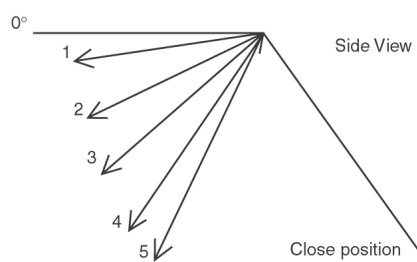

Figure 2
2. Manual vertical airflow direction can be set using remote controller; the angles of the vane are as stated above and the positions of the vane are as Figure 2 below. When the air conditioner is stopped using remote controller, the vane will shift to close position.